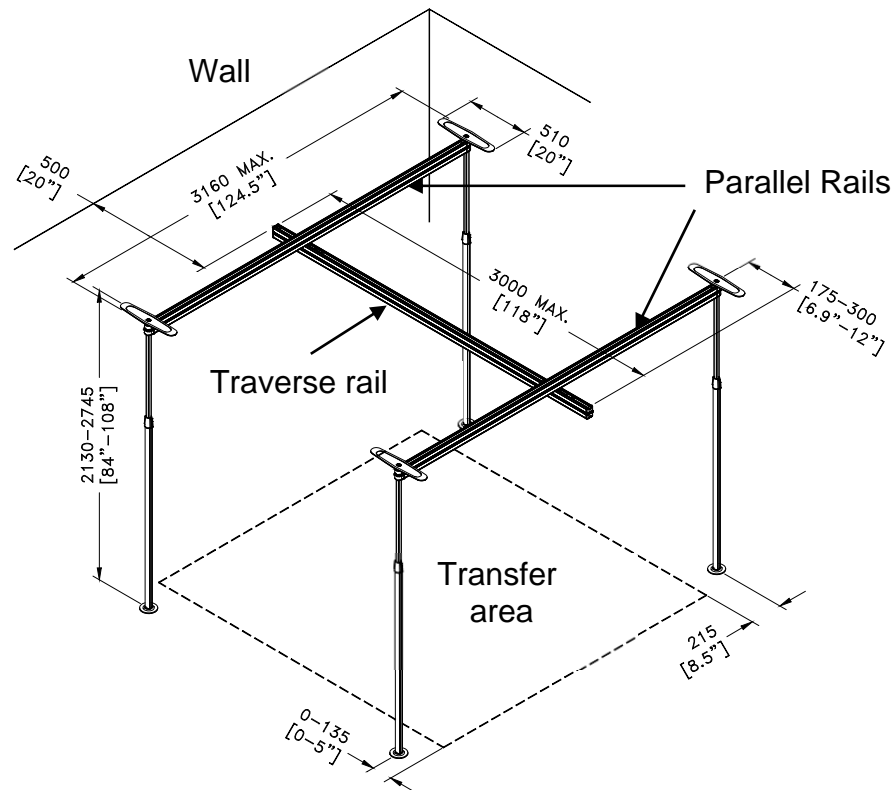

Figure 10
1. Decide where you will place your 4-Post Easytrack System. Before you make your decision, make sure you will have enough room to install your Easytrack System (see Figure 10).
**MAKE SURE YOU MEASURE CAREFULLY. See Figure 10 for dimensions.**